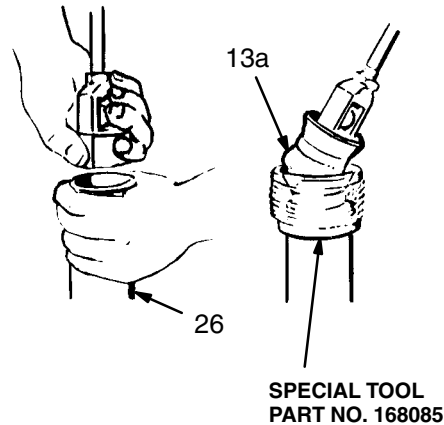

Fig. 5
15. Lubricate the displacement rod (27) and slide it down through the top of the pump housing (36).
16. Clamp the pump cylinder (26) in a vise. Inspect the inner surface for scoring or wear. Lubricate the top inside diameter of the cylinder with light machine oil.
17. A special assembly tool, Part No. 168085, should be used to install the piston assembly into the cylinder. This tool is made from 0.016" (0.41 mm) shim stock and helps protect the edges of the packings from damage during reassembly. Place the tool around the piston packings as shown in Fig. 5. Start the bottom packings (13a) into the cylinder and then remove the tool.